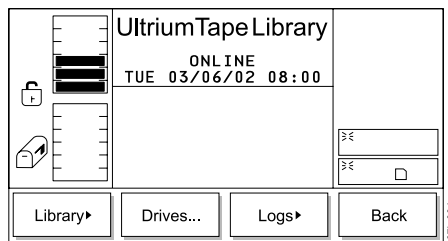

Figure 126. Status Menu
1. From the Main Menu's initial screen, press the button below the **Status** softkey. The Status Menu displays (see Figure 126).